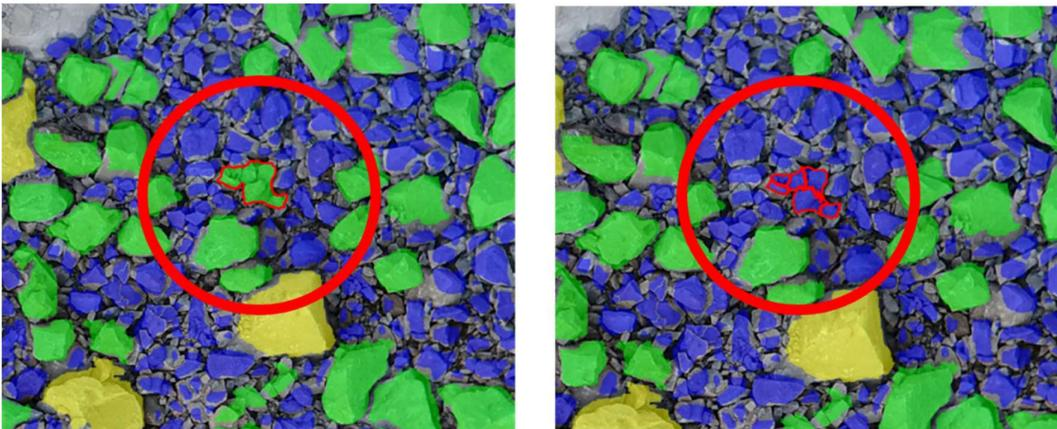

Figure 17: Automatically splitting a fragment. In this example the original fragment is split into six fragments with the automatic mode
2. “Split Fragment Automatically” automatically splits a fragment into several fragments. Activate the corresponding icon  in the toolbar and click somewhere within the fragment to split (Figure 17). “Split Fragment Automatically” considers the properties of the texture in the fragment’s texture patch and is applied subsequently to achieve splitting into smaller fragments.